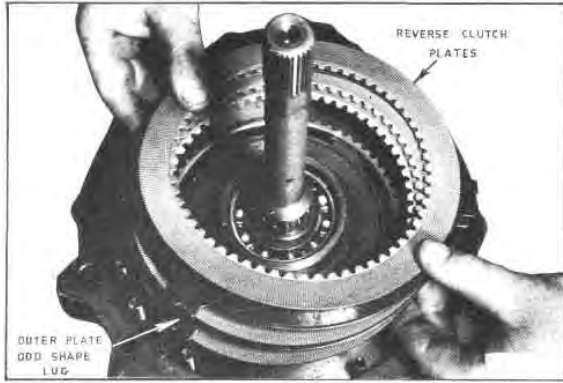

Fig. G25 — The Reverse Clutch Plates
10. Remove the twelve (12) pressure plate springs and three (3) dowel pins. Check the springs for being bent or mutilated.
11. Remove the three (3) inner clutch plates and two (2) outer clutch plates from the ring gear and housing clutch cavity (Figure G25). Inspect the clutch plates for wear on faces and inner teeth; also, check for warpage (.020" max.).